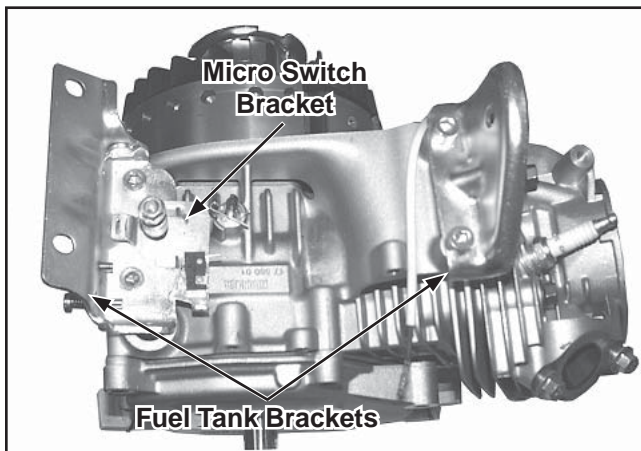

Figure 9-26. Fuel Tank Bracket Removal.
2. Remove both fuel tank brackets by removing the two screws in each. Remove the threaded stud from the left bracket and remove the micro switch bracket. See Figure 9-26.